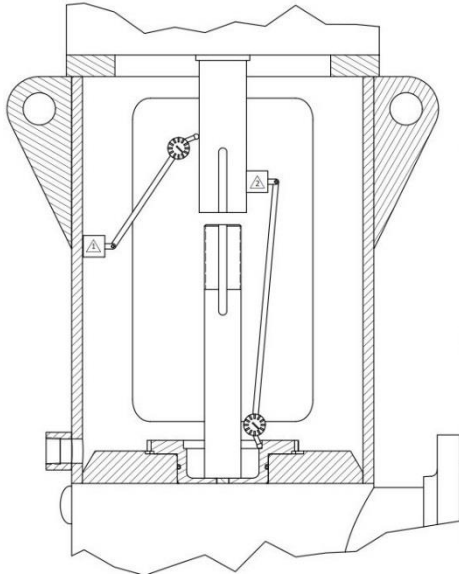

Figure 4-7 – Motor Shaft and Seal Housing Runout
3. Place the dial indicator in position 1 shown on figure 4-7
7. Place the dial indicator in position 2 shown on figure 4-7